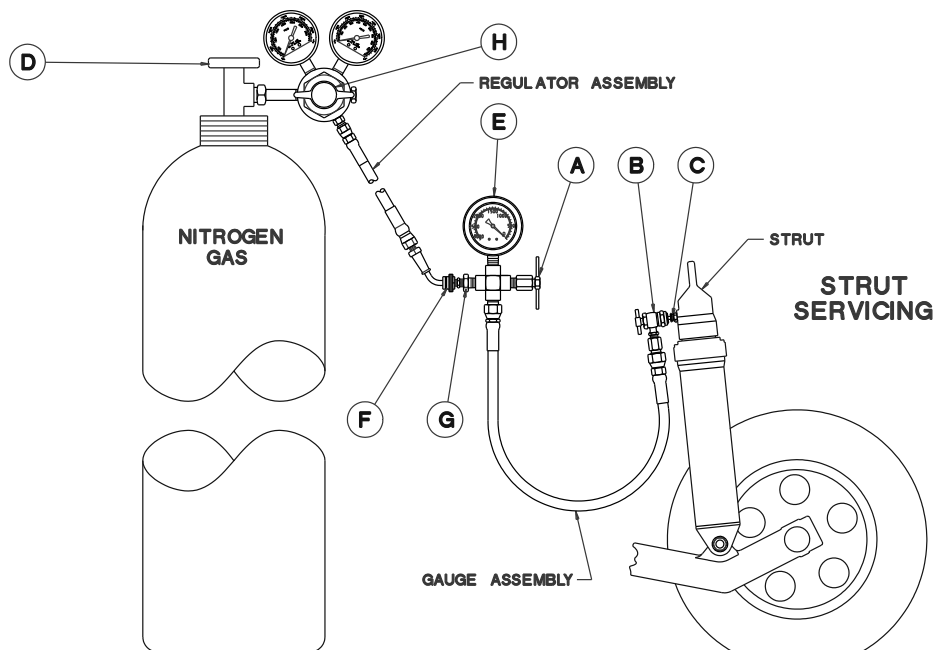

FIGURE 1
1. Reference **Figure 1** during the following steps.
2. Ensure (D) Nitrogen Supply Valve is closed (Off).
3. Connect (H) Pressure Regulator to Nitrogen supply (not included) if not already connected.
4. Decrease (H) Pressure Regulator to the minimum pressure setting; the regulator adjustment knob is a rotating type. Clockwise rotation of the knob increases pressure and counter-clockwise rotation decreases pressure.
5. Turn valve handle clockwise to close (A) Air Bleeder Valve.
6. Connect (F) Hose Coupling to (G) $\frac{7}{16}$ -20 UNF-28, 37° JIC Connector.
7. Ensure (C) Nitrogen Charging Valve is in closed position. (Refer to Aircraft Maintenance Manual)
8. Connect (B) Hose Coupling to (C) Nitrogen Charging Valve.
9. Open (C) Nitrogen Charging Valve. (Refer to Aircraft Maintenance Manual)
10. Turn handle clockwise on (B) Hose Coupling to depress valve core in (C) Nitrogen Charging Valve.
11. Open (D) Nitrogen Supply Valve.
4.2.2 DISASSEMBLY (Reference Figure 1)